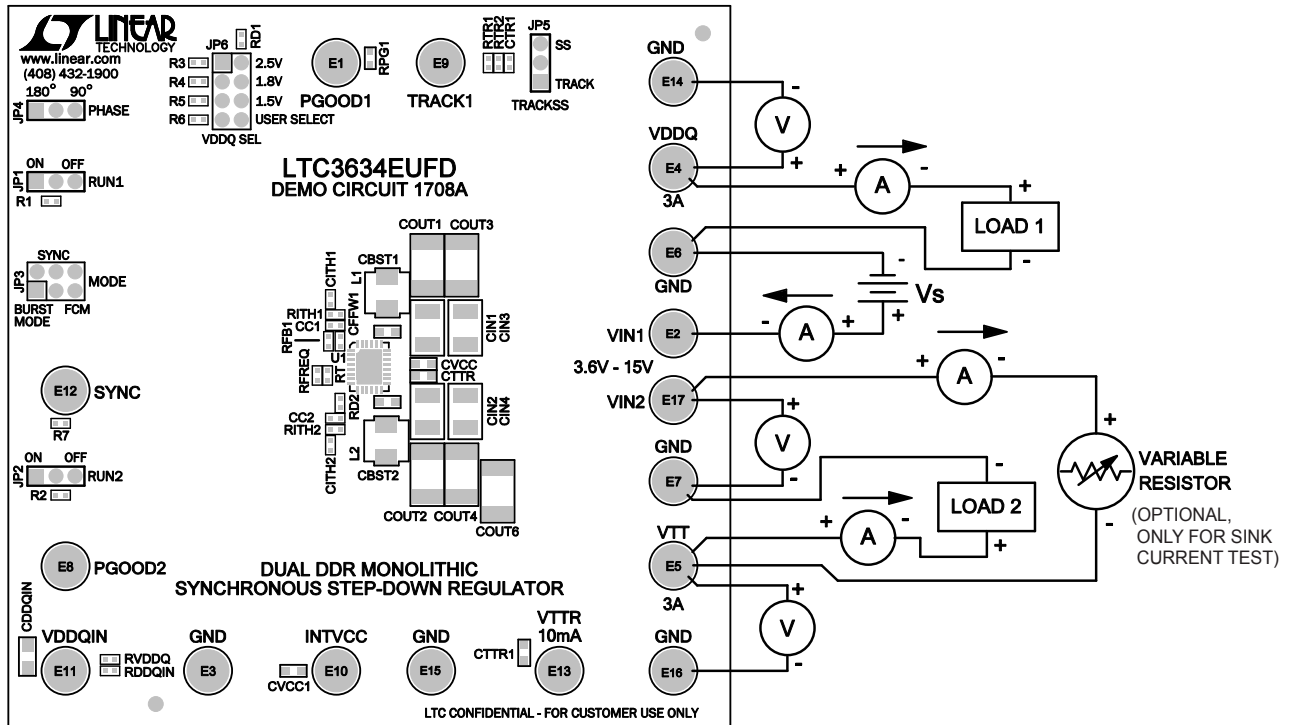

Figure 1. Proper Measurement Equipment Setup
The DC1708A is easy to set up to evaluate the performance of the LTC3634. For a proper measurement equipment configuration, set up the circuit according to the diagram in Figure 1.
1. Connect the input power supply to the  $V_{IN}$  and GND terminals. Connect the loads between the  $V_{OUT}$  and GND terminals. Refer to Figure 1 for the proper measurement equipment setup.